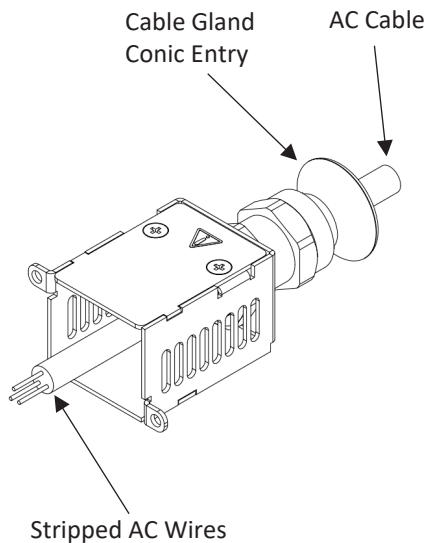

Figure 4-19: Stripped Wires Inserted Through
5. Insert the AC cable through the conic cable gland entry and the strain relief bracket as shown in Figure 4-19 (4-wires are shown, it applies to 1-Phase, 3-wires as well).